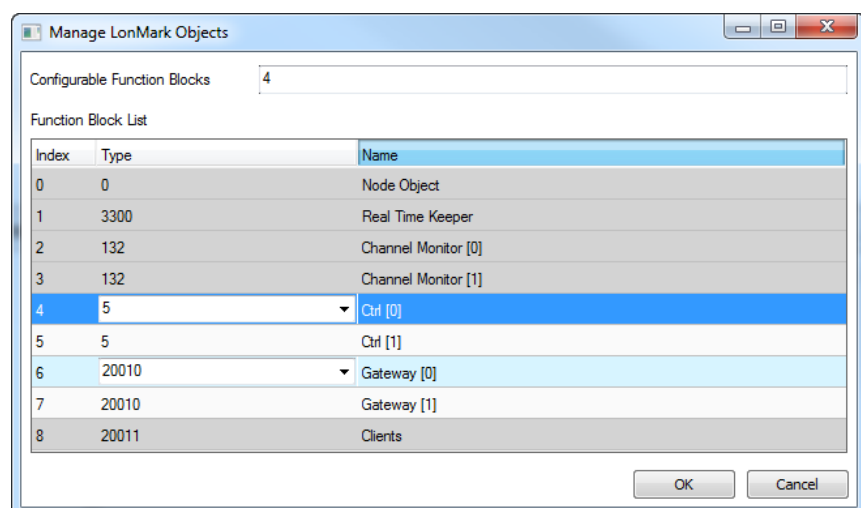

Figure 117: Manage LONMARK Objects.
1. Select the menu **Tools → Manage LonMark Objects ...**. The dialog Manage LonMark Objects as shown in Figure 117 appears.